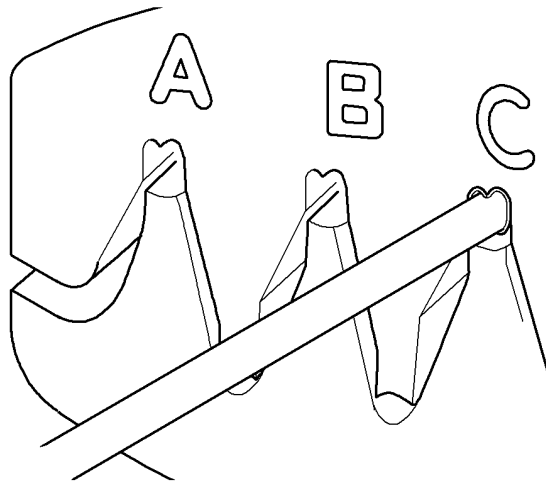

Figure 3 Crimping the insulation grip.
4. **Figure 3.** Insert the crimped terminal into the appropriate position of the crimp tool, then close the crimp tool to firmly fasten the insulation of the wire in the cable grip of the terminal.